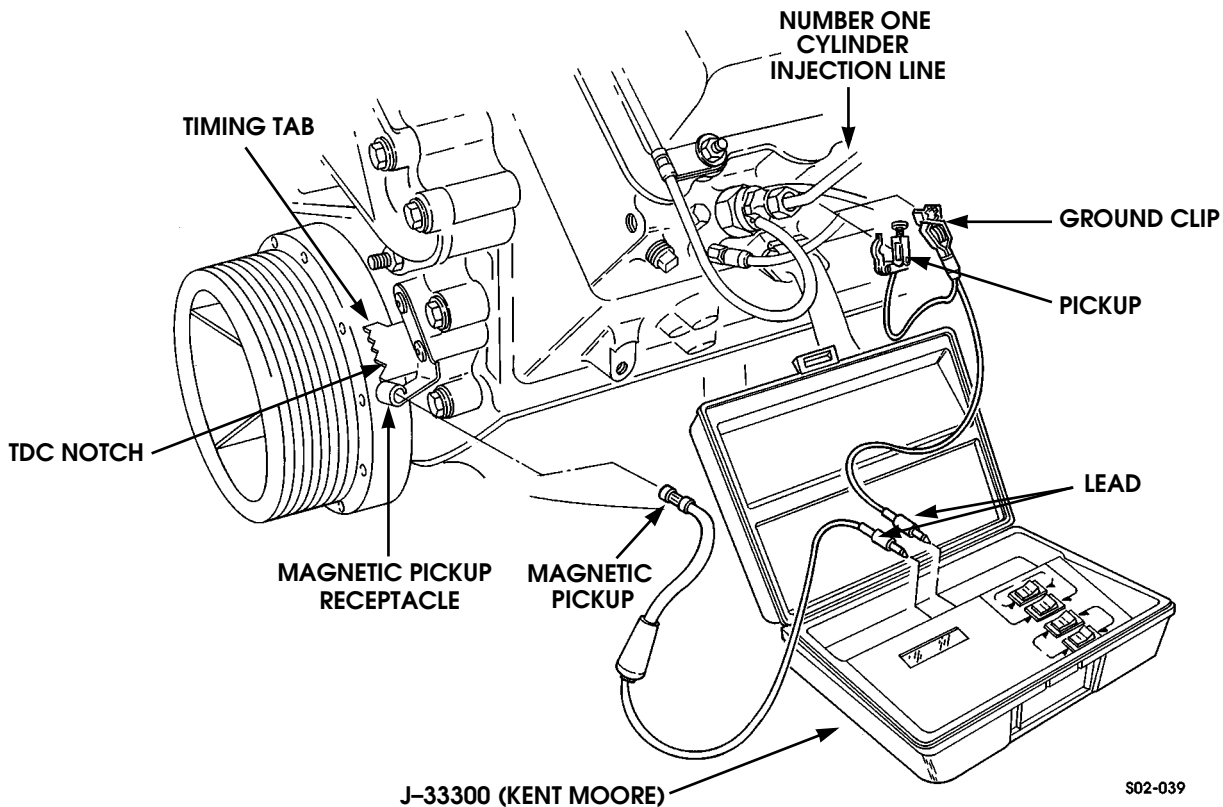

Figure 3-76: Dynamic Magnetic Pickup Timing Meter Connection (NA Diesel Only)
1. Connect timing tool J-33300 (Kent-Moore) following manufacturer's instructions (Figure 3-76).